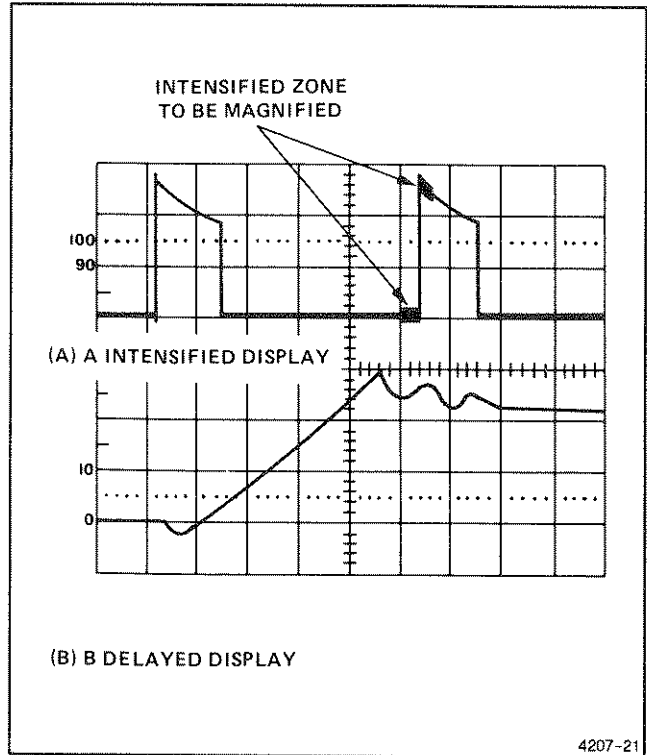

Figure 2-16. Delayed-sweep magnification.
6. Adjust the B DELAY TIME POSITION control to position the start of the intensified zone to the portion of the display to be magnified (see Figure 2-16).
7. Set the B SEC/DIV switch to a setting which intensifies the full portion of the A trace to be magnified. The intensified zone will be displayed as the B trace (see Figure 2-16). The B Horizontal MODE may also be used to magnify the intensified portion of the A Sweep.